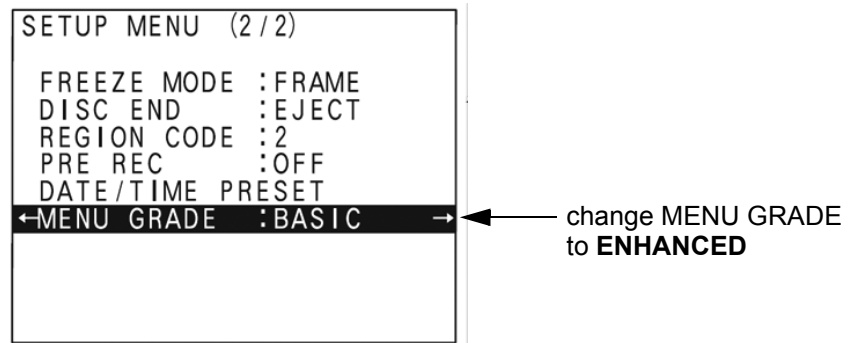

Figure 3-30 "Setup Menu" - [MENU GRADE] highlighted
- 6.) Press the  $\downarrow$  (down) button on the front of the recorder repeatedly until [REMOTE I/F] is highlighted, see Figure 3-30 on page 3-36.
5.) Press the  $\rightarrow$  (right) button. The "Setup Menu" appears, see Figure 3-30 on page 3-36.